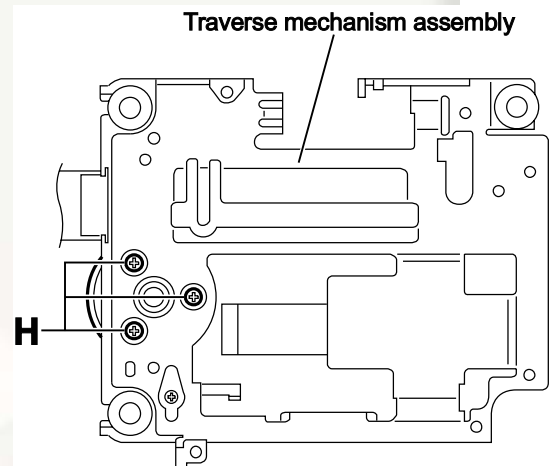

Fig.13
- (2) From the bottom side of the traverse mechanism assembly, remove the three screws **H** attaching the spindle motor board. (See Fig.13.)